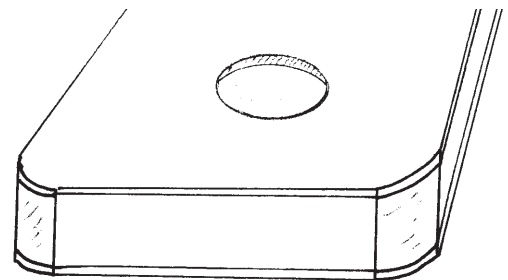

FIG. 7
- 7. Trim off the excess wood from the TOP and BACK, to match the sides. A good tool for this is a router with flush-trimming bit, or a power sander with coarse sandpaper (80 grit). If you use a coping saw, be sure that the teeth are pulling down so you don't chip off the nice face of the veneer. We also recommend rounding all the corners. (fig. 7) The best tool for this is a disk sander -- hold each corner against the disk and rotate the box to get a smooth round shape.